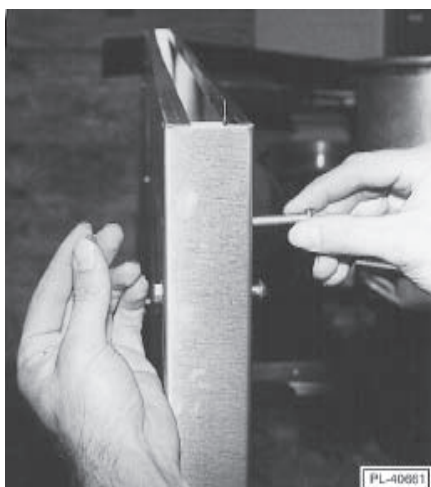

Fig. 13
7. From the front, install four $\frac{1}{4}$ -20 x $2\frac{5}{16}$ " (59 mm) long machine screws and secure bolts with locknuts. Do not tighten the screws all the way down. Leave about $\frac{1}{4}$ " (6 mm) of play in each screw (Fig. 13).